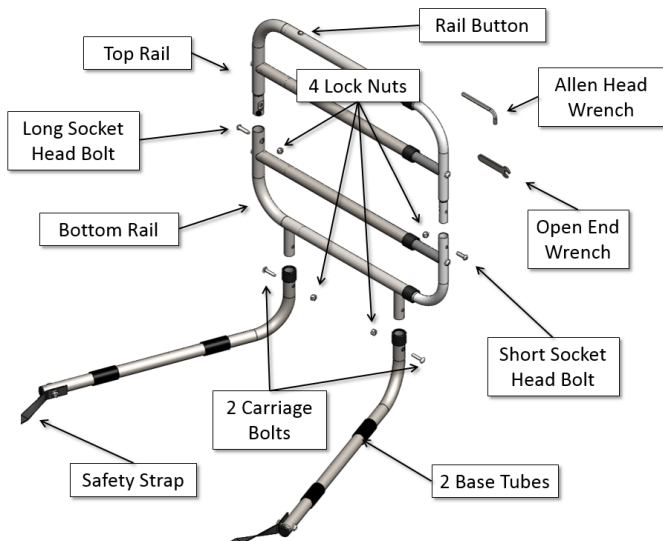

Figure 1
1. Remove all components from the box and become familiar with the items as shown in Figure 1.
- PUSH Rail Button to extend bed rail (see Figure 1).